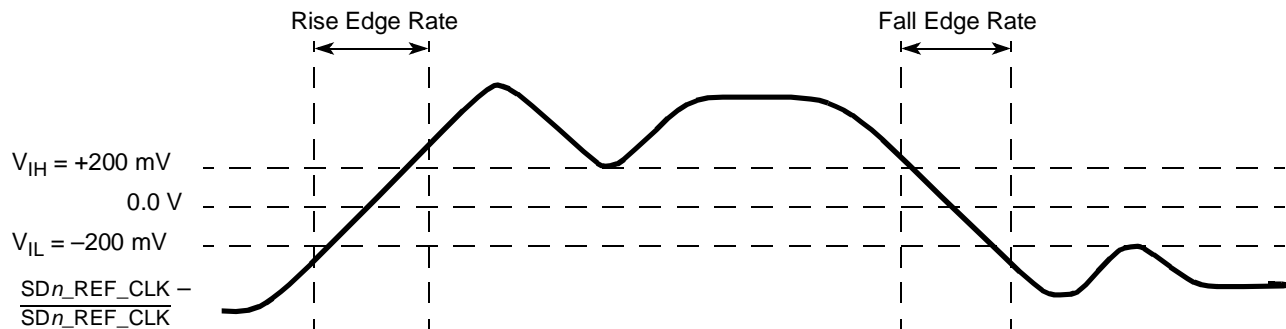

Figure 47. Differential Measurement Points for Rise and Fall Time
3. Measured from -200 mV to +200 mV on the differential waveform (derived from $\text{SD}_n_{\text{REF_CLK}}$ minus $\overline{\text{SD}}_n_{\text{REF_CLK}}$). The signal must be monotonic through the measurement region for rise and fall time. The 400 mV measurement window is centered on the differential zero crossing. See Figure 47.